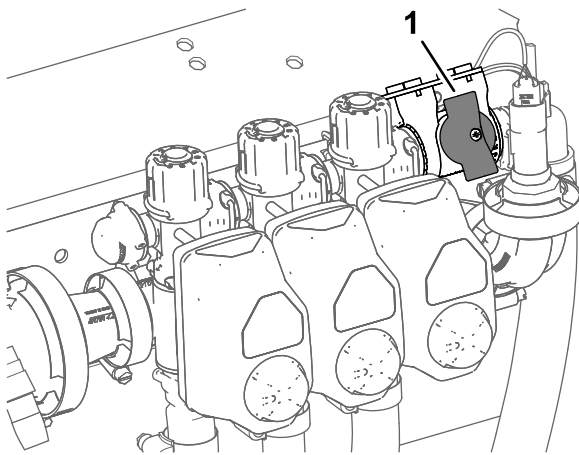

Figure 48
4. For machines operated in the application-rate mode, ensure that the knob for the section-bypass shutoff valve is in the closed position (Figure 48).
5. For machines operated in the application-rate mode, ensure that the section-bypass shutoff valve is closed (Figure 48).